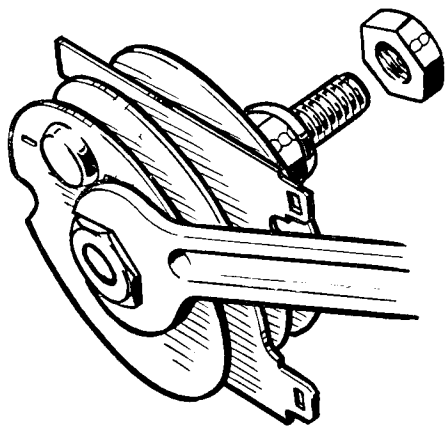
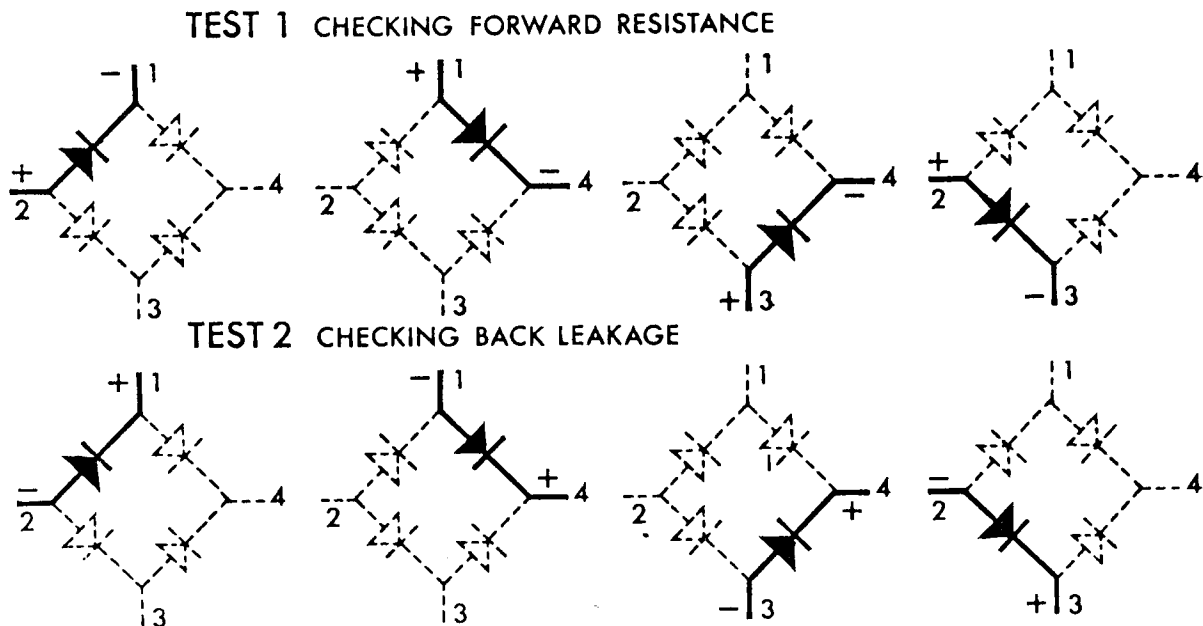

FIG. G.5. Refitting the rectifier.
FIG. G.8. Rectifier test sequence for checking forward resistance and back leakage.
When tightening the rectifier securing nut, hold the spanner as shown in Fig. G.5, for if the plates are twisted, the internal connections will be broken. Note that the circles marked on the fixing bolt and nut indicate that the thread form is $\frac{1}{4}$ in. U.N.F.
In Fig. G.8, the rectifier terminal markings (1), (2) and (3) are as shown physically in Figs. G.5 and G.7, while terminal (4) represents the rectifier centre bolt. (1) and (3) are the A.C. input terminals while (2) and (4) are the D.C. output terminals (—ve and +ve respectively).